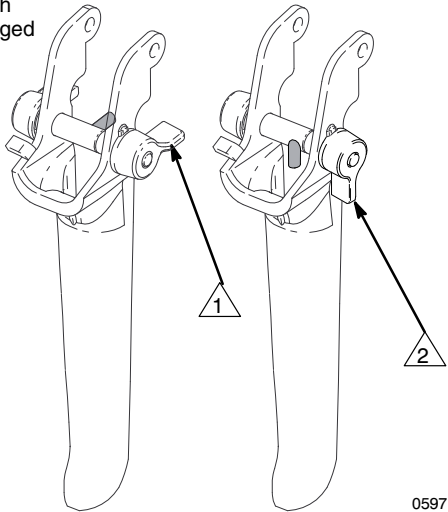

Fig. 5
When engaged, the gun safety latch prevents the gun from accidental triggering. See Fig. 5.
4. **Turn the pressure knob (64) to the minimum setting.**
5. **Disengage the gun trigger safety.** See Fig. 5, page 8.